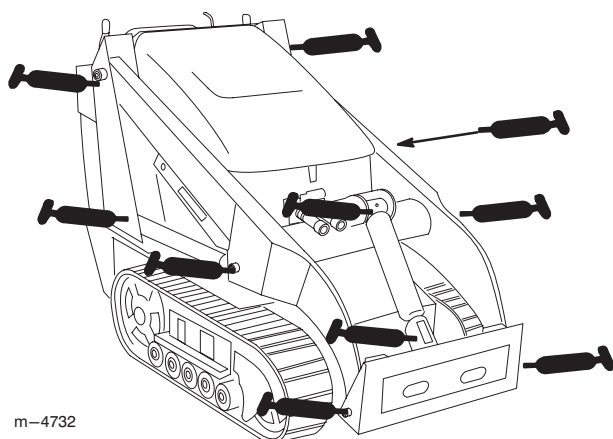

Figure 44
3. Connect a grease gun to each fitting (Fig 44 and 45).